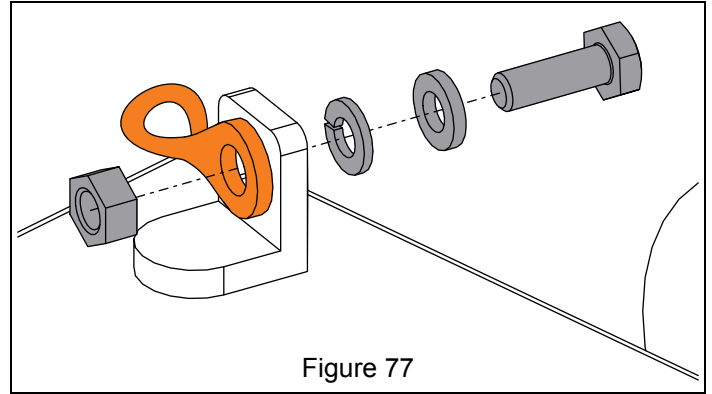

Figure 77
2. Reconnect positive battery cable to positive battery terminal first, then the negative cable to negative terminal. Secure with two hex bolts, two flat steel washers, two locking washers and two hex nuts. See Figure 77.